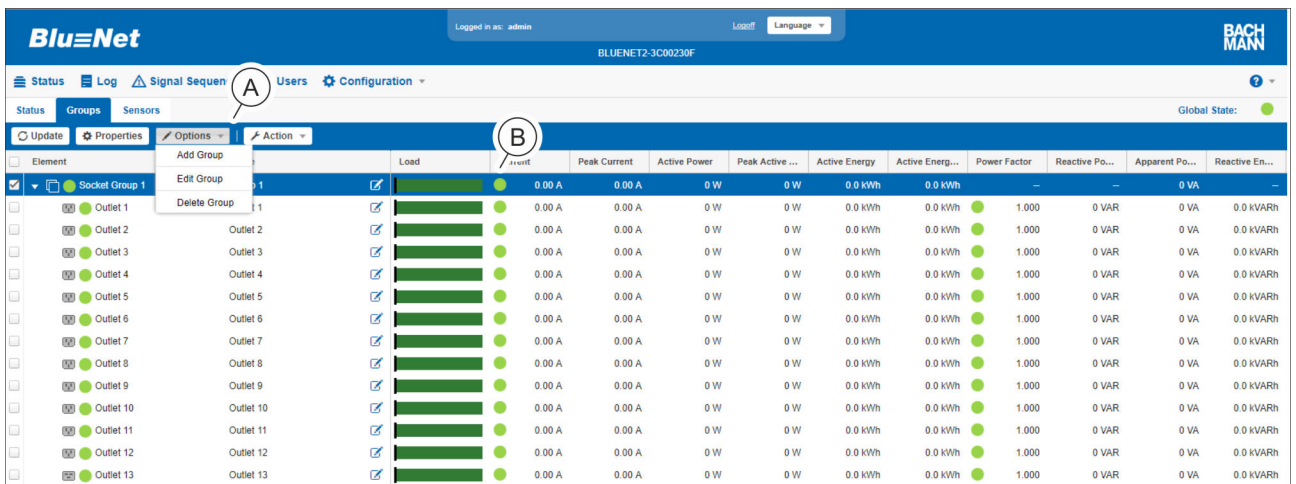

Fig. 110: “Status” menu – “Groups” tab
3. ➔ Choose “Options ➔ Add Group” to create a new socket group (Fig. 110/Ⓐ).
To modify an existing group, select the desired group (Fig. 110/Ⓑ) and select the menu “Options ➔ Edit Group” (Fig. 110/Ⓐ).
To delete a socket group, select the desired socket group (Fig. 110/@) and select the menu “Options → Delete Group” (Fig. 110/A). A security prompt appears and has to be confirmed.